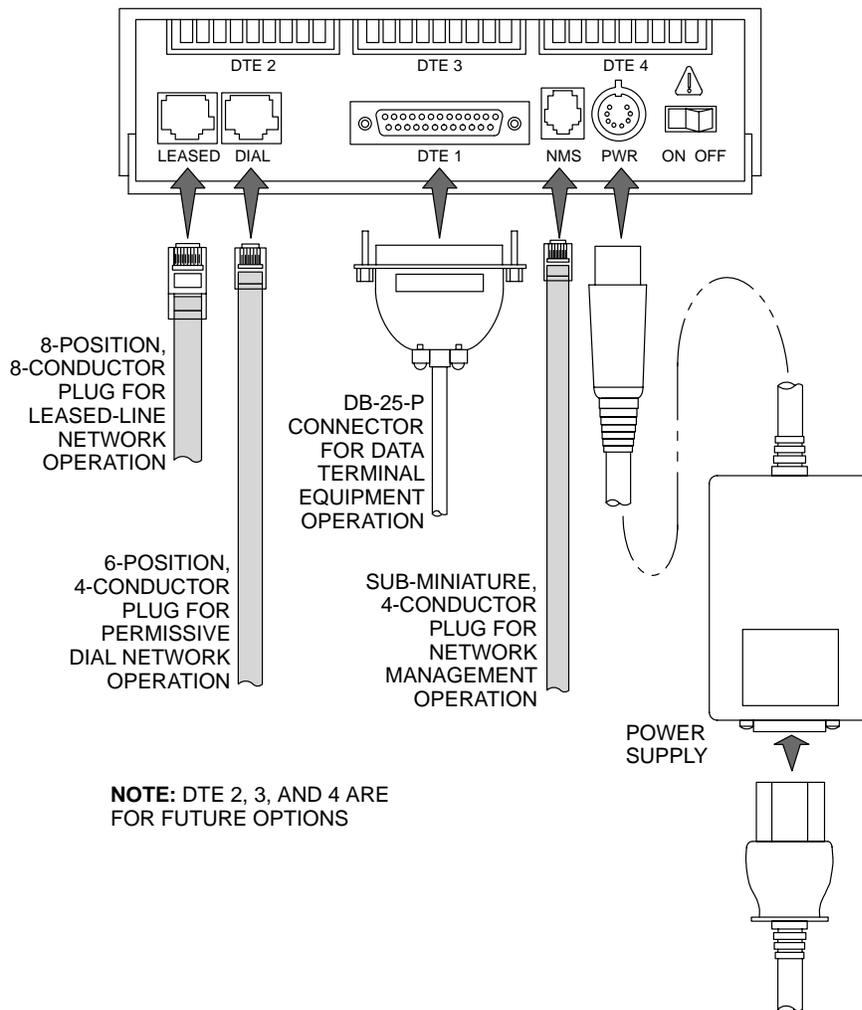

Figure 1. Model 3910 Rear Panel and Power Supply
The power supply used with the Model 3910 modem (Figure 1) is auto-sensing and capable of operating (without restrapping) with input voltages from 100 Vac to 250 Vac, and input frequencies from 50 Hz to 60 Hz.
The rear panel of the Model 3910 modem (Figure 1) has the following switches and connectors:
Figure 1 shows how Model 3910 modems are connected to certain TELCO jack types using the appropriate cables.
2. Connect the DB-25-P (plug) connector on the cable to the DB-25-S (socket) connector labeled DTE (Figure 1) on the modem's rear panel. Use a small screwdriver to secure the cable to the modem.
1. Insert the 8-position, 8-conductor modular plug into the jack labeled LEASED (Figure 1).
1. Insert the 6-position, 4-conductor modular plug into the jack labeled DIAL (Figure 1).
1. Insert the sub-miniature, 4-conductor modular plug of the 3600 Hubbing Device into the jack labeled NMS (Figure 1). Refer to Document Number, 3610-A2-GZ45, *3600 Hubbing Device Feature Number 3600-F3-300, Installation Instructions*, for a description of the 3600 Hubbing Device. Installation for the 3910 is the same as for the 3610 DSU.
2. Insert the power supply's 8-pin DIN connector into the modem's rear panel dc power receptacle (Figure 1).